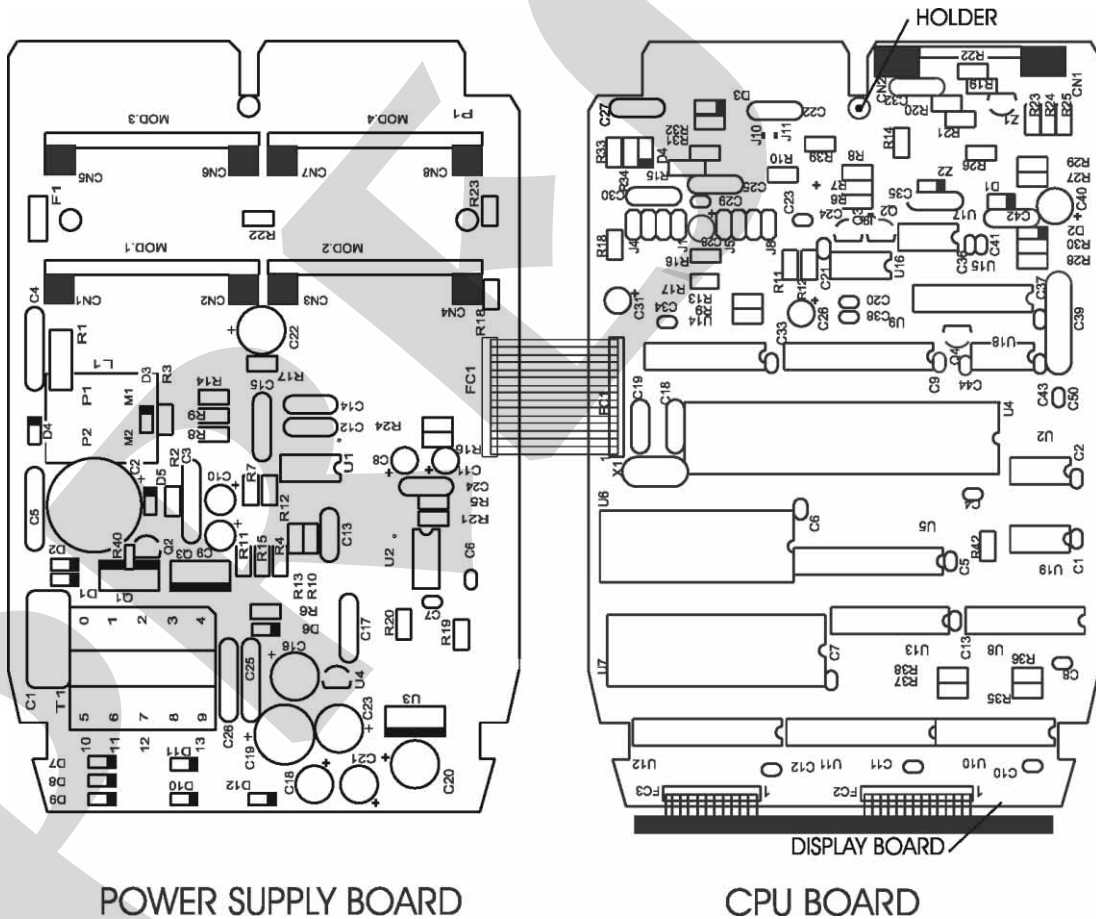

Fig. 21 - Indicator Hardware
- iv) Release the upper board to the right and open the boards as shown in Figure 21.